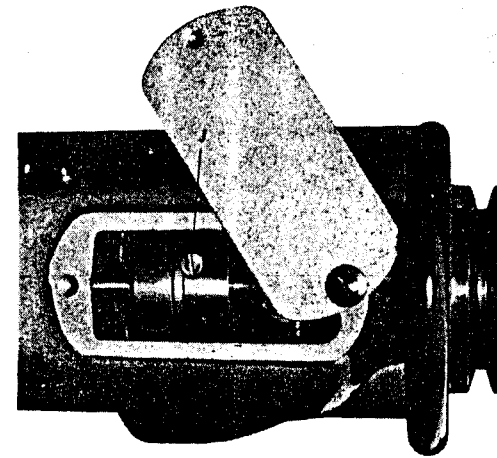

Fig. 10. Adjustment for Regulating Amount of Travel of Needle Bar
Swing back the cover plate at the top of the machine and loosen the screw (H, Fig. 10) in the needle bar driving eccentric on the arm shaft. To increase the throw or amount of travel of the needle bar for a longer stitch, turn the large screw (J, Fig. 10) on the needle bar driving eccentric over to the left or upwardly. To decrease the throw of the needle bar for a shorter stitch, turn the large screw (J) over to the right or downwardly. When the required throw of the needle bar is obtained, firmly tighten the screw (H).